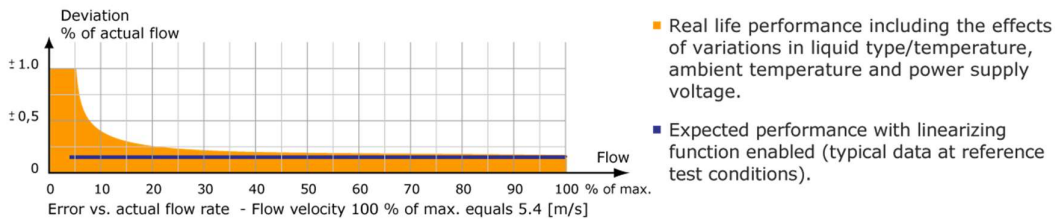

Figure 1: Max. error vs. actual flow rate
- Accuracy: see Figure 1
- Linearity: see Figure 1